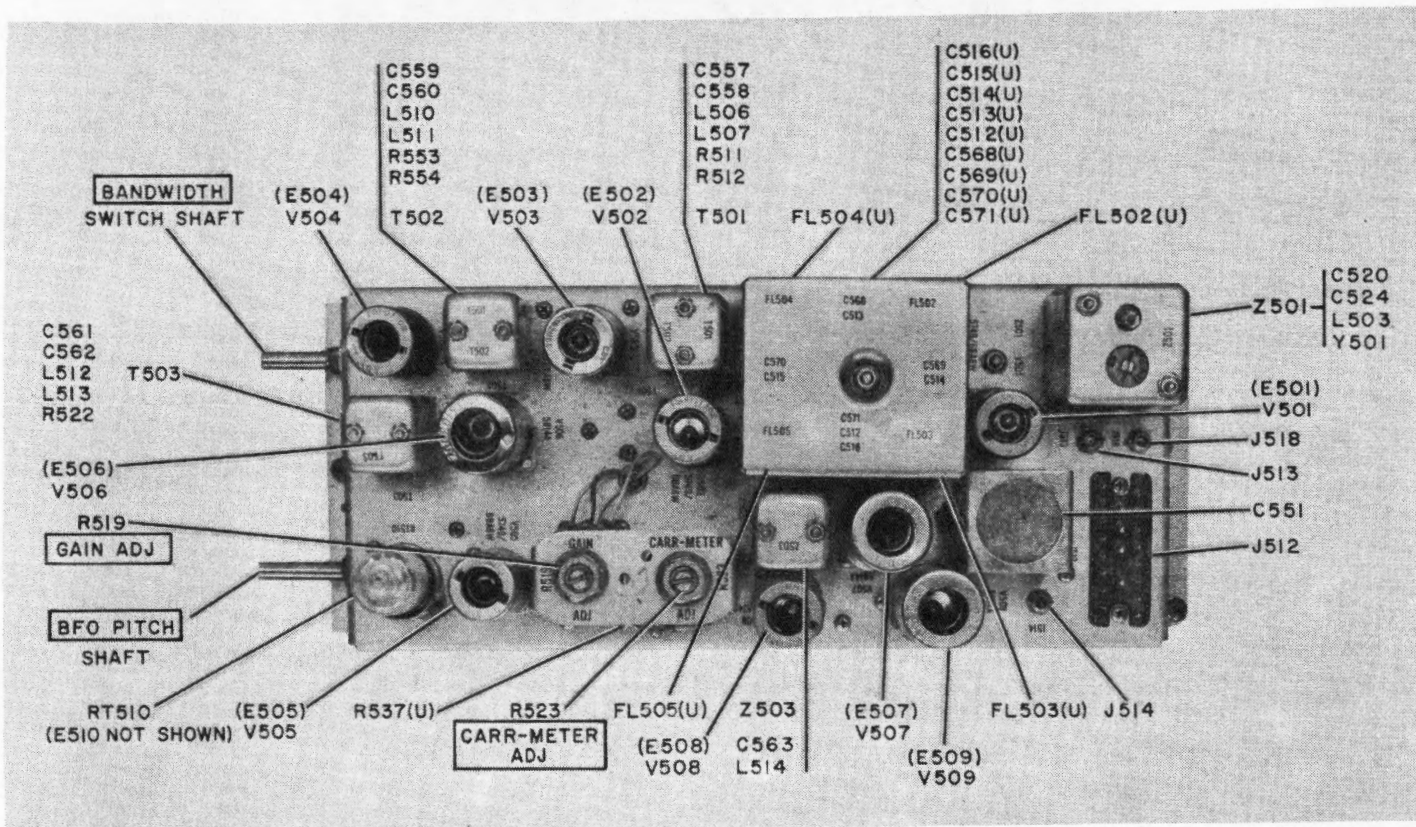
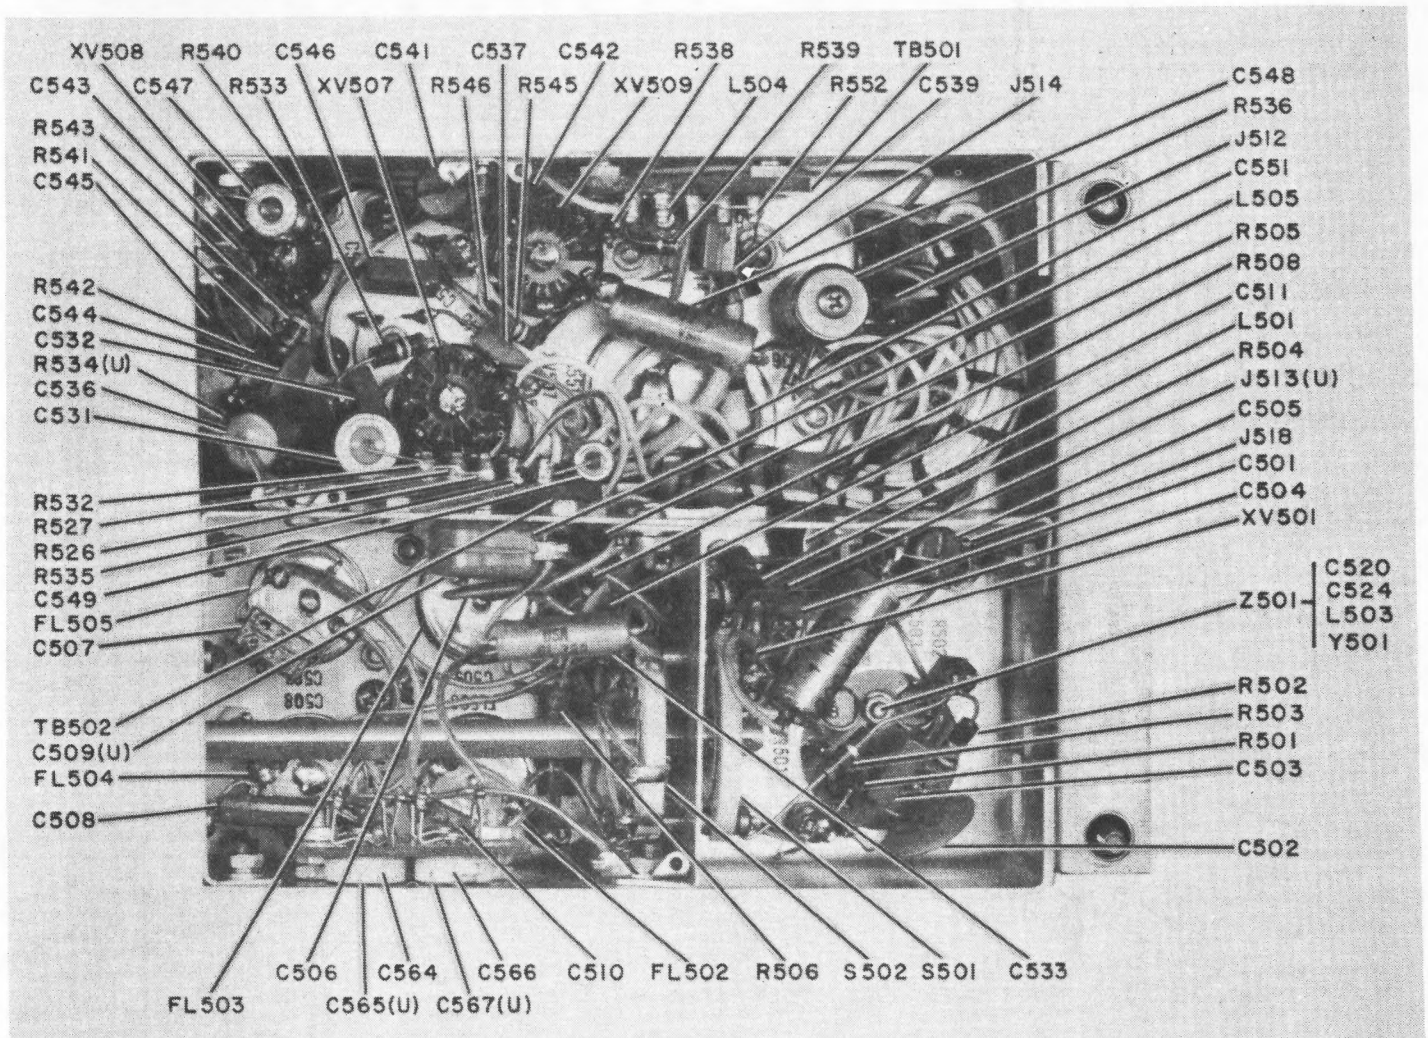

Figure 6-16. IF Subchassis, Top View
Figure 6-18. IF Subchassis, Rear Section
6.3.10.1 IF Transformers. (See figure 6-16.) IF transformers T501, T502, and T503 are stagger tuned in some models. In other models, T501, T502, and T503 are tuned to 455 kHz. Whenever any one of these transformers is replaced, perform the alignment procedures described in paragraph 6.2.7.
1. After removing the defective filter, remove the small mica capacitors from the filter connection wires. One of these capacitors (C507, C508, C509, or C510) is located beneath the chassis (figure 6-18), the other (C513, C514, C515, or C516) above the chassis (figure 6-16).